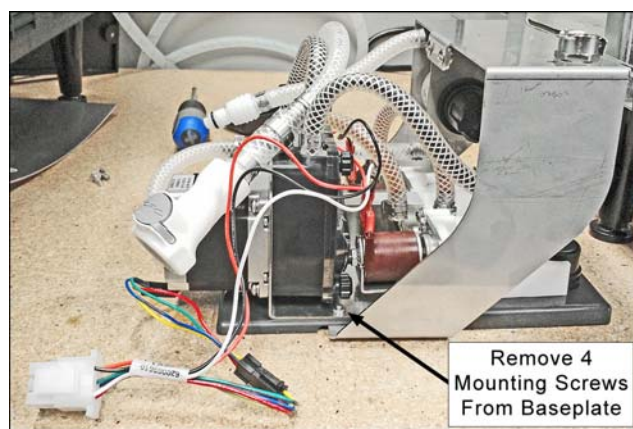

Figure 4-6 - Mixing-Dispensing Assembly Removed
- 4) In the cabinet, unplug the wiring connector from the mixing-dispensing assembly and remove the assembly. Place it on the countertop (Fig. 4-6).